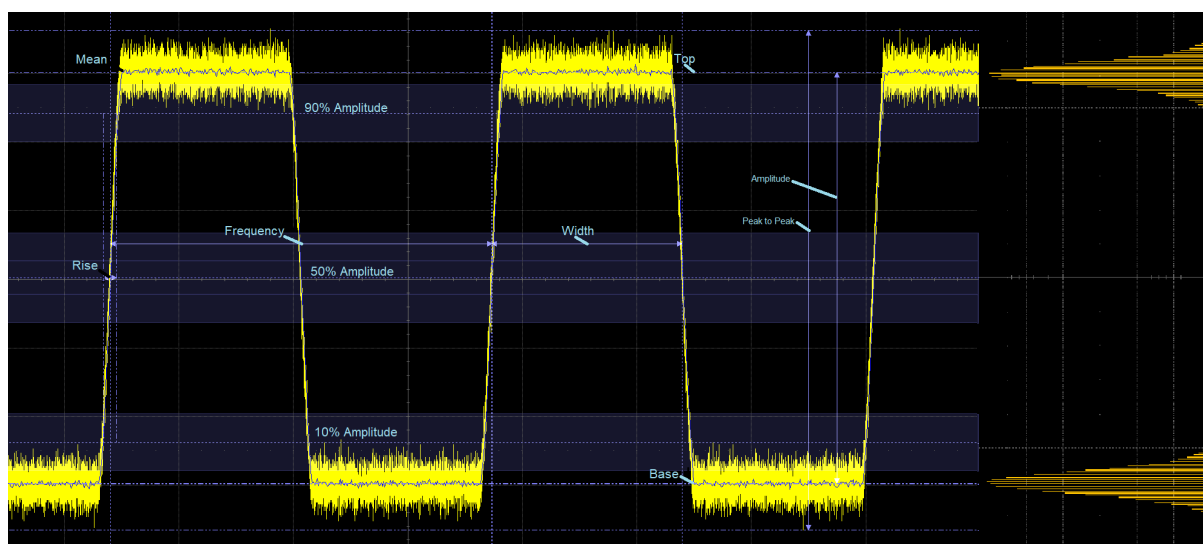

**Figure 2. Averaging adds multiple waveforms and normalizes the sum by the number of waveforms acquired, thus reducing noise.**
**Figure 2.** The upper trace is the acquired waveform. The lower trace is the average of one thousand acquisitions. Averaging has suppressed the noise leaving a clean waveform.
The histogram has two peaks. One corresponding to the highest level of the square wave, called the top while the other relates the lower level or base value. The mean values of the respective histogram elements represent top and base values. The square wave's amplitude is the difference between the top and base amplitudes. Knowing the amplitude allows computation of all the other pulse parameters as shown in Fig. 2. Statistics let you see through the random parts of the data to extract meaningful information from chaotic noise effects. This technique works on a single acquisition and doesn't require multiple acquisitions. Multiple acquisitions do, however, improve the accuracy of the measurement.